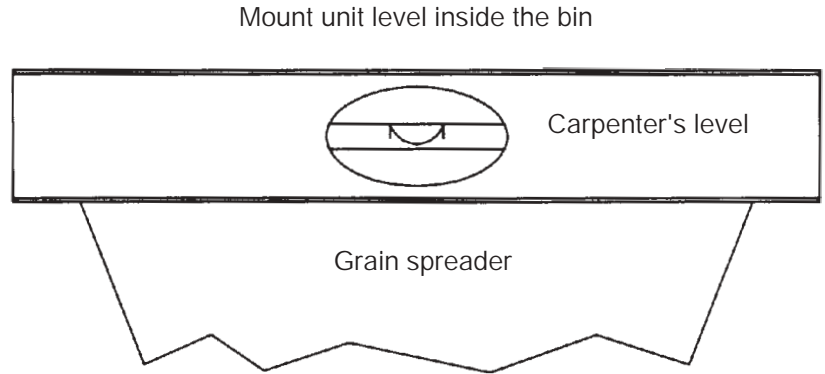

Figure 1: Mount spreader and check with level.
4. Once unit is installed, use a carpenter's level across the top of the spreader cone to make sure it is level in all directions (Figure 1).